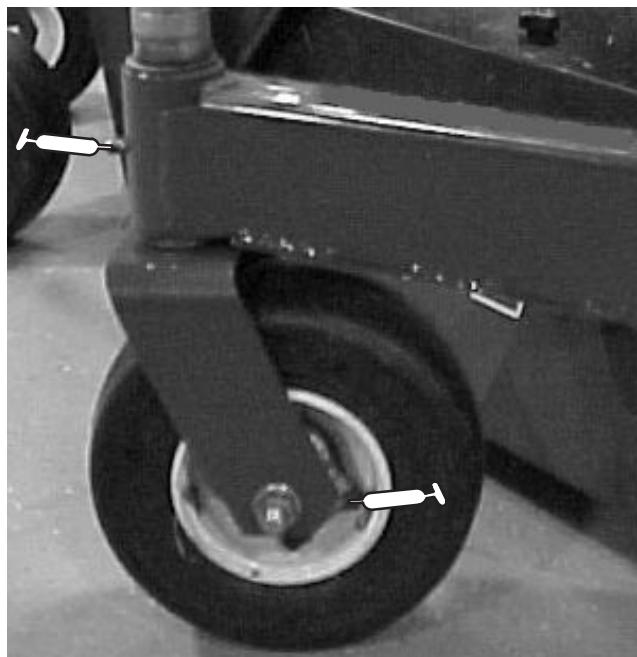
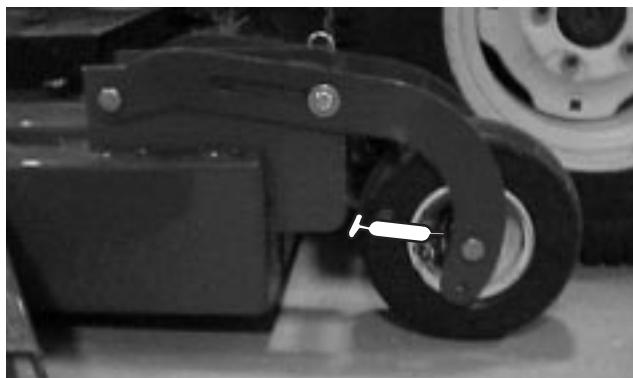
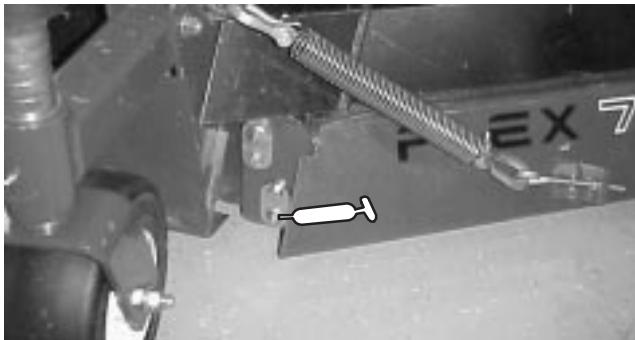

Figure 25
Figure 26
Figure 29
1. The cutting unit has bearings and bushings that must be lubricated, and these lubrication points are: front castor spindle bushings (2) (Fig. 25); front castor wheel bearings (4) (Fig. 25); rear castor wheel bearings (2) (Fig. 26); blade spindle bearings (3) (Fig. 27); right and left push arm ball joints (Fig. 27); drive shaft (3) (Fig. 27) idler arm pivots (3) (Fig. 28); and deck pivot pins (4) (Fig. 29)